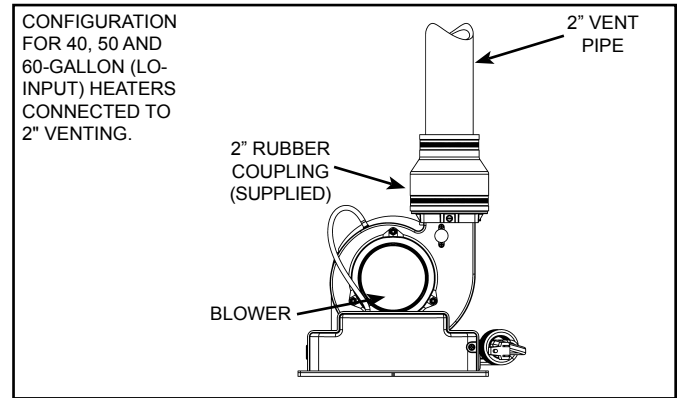
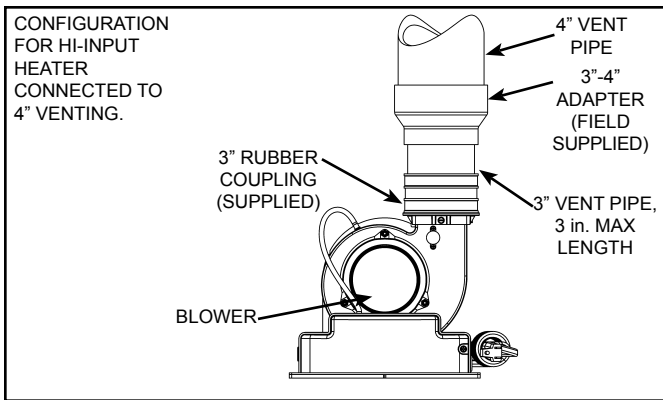

Figure 37.
Figure 41.
This heater is designed to exhaust the products of combustion (flue gases) to the outdoors using a sealed piping system. Table 2 lists the allowable vent materials and sizing information. Figure 33 shows the general venting layout while Figure 37 thru Figure 41 show various end termination details and clearances. Connection of the venting piping to the blower is shown in Figure 37 thru Figure 41.
1. The plastic vent piping connects into the rubber coupling located on the top of the blower assembly. This coupling includes gear clamps to connect the venting to the blower. These connections must be properly seated and tightened to prevent the leakage of flue gases into the area. See Figure 37 thru Figure 41.